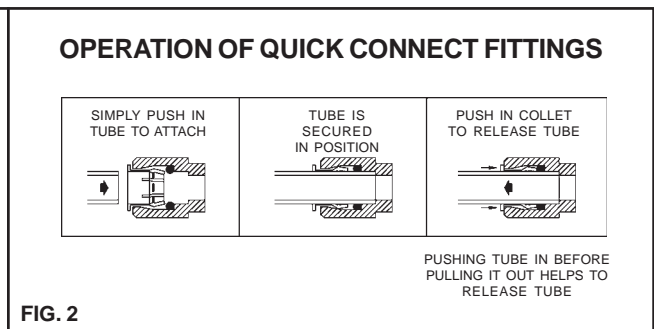

FIG. 2
7. **Make water supply connections** from service stop to the fountain strainer. Insert the water inlet line into the inlet side of strainer until it reaches a positive stop - about 3/4" (See Fig. 2). Turn on water supply and check for leaks. Newly installed water supply line should be insulated after leak check is completed. **DO NOT SOLDER TUBES INSERTED INTO THE STRAINER AS DAMAGE TO THE O-RINGS MAY RESULT.**